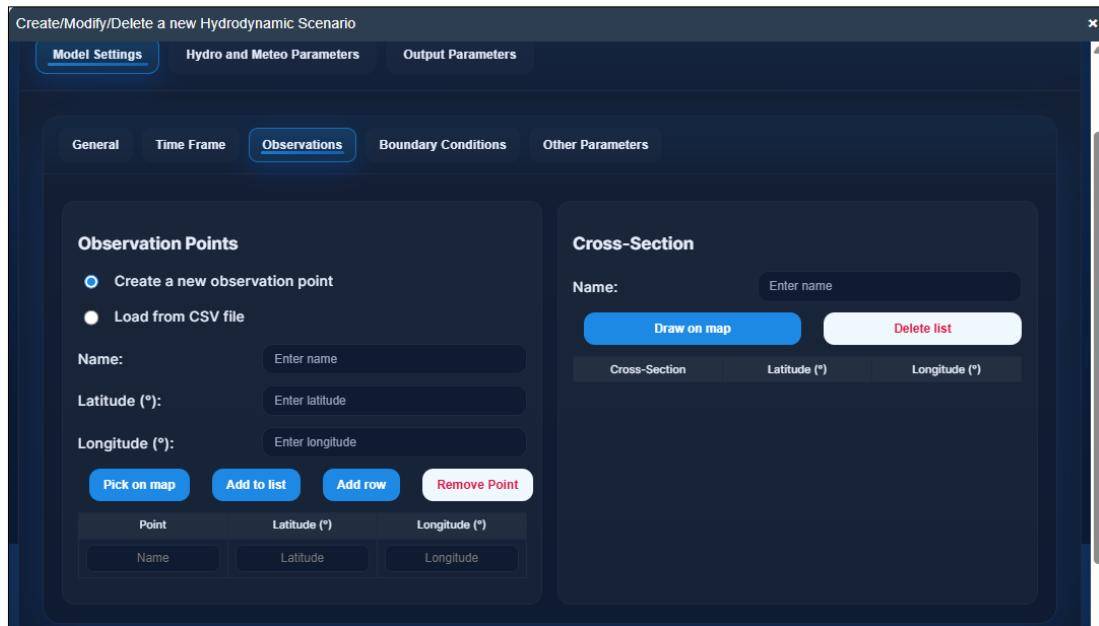

Figure 2.6. Set up observations
- ❖ **Observations:** This sub-tab allows the user to define observation points and cross-sections (if needed) to monitor simulated information during the simulation period (**Figure 2.6**). The user can either define observation points by selecting them from the map directly, uploading them from a CSV file, or typing their attributes (i.e., name, latitude, and longitude) on this sub-tab directly.